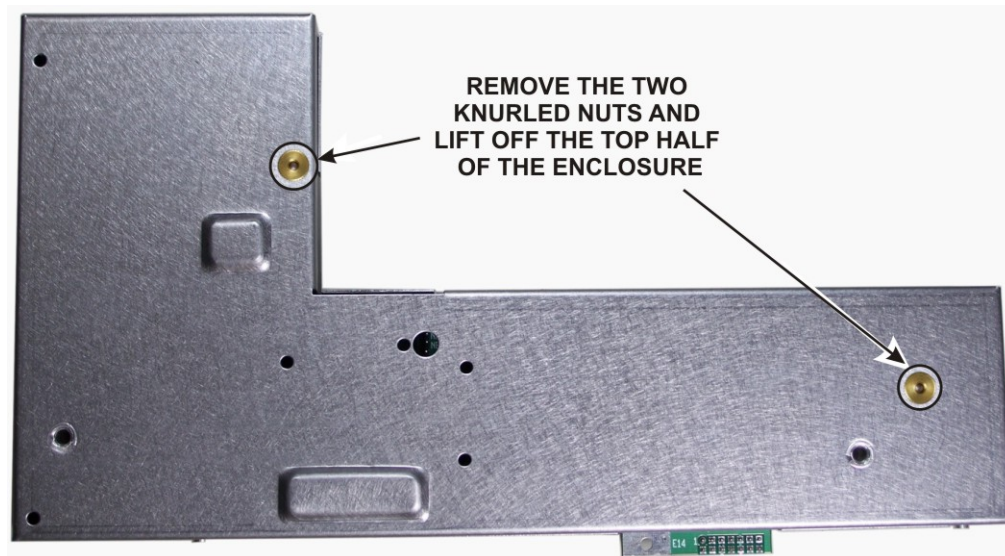
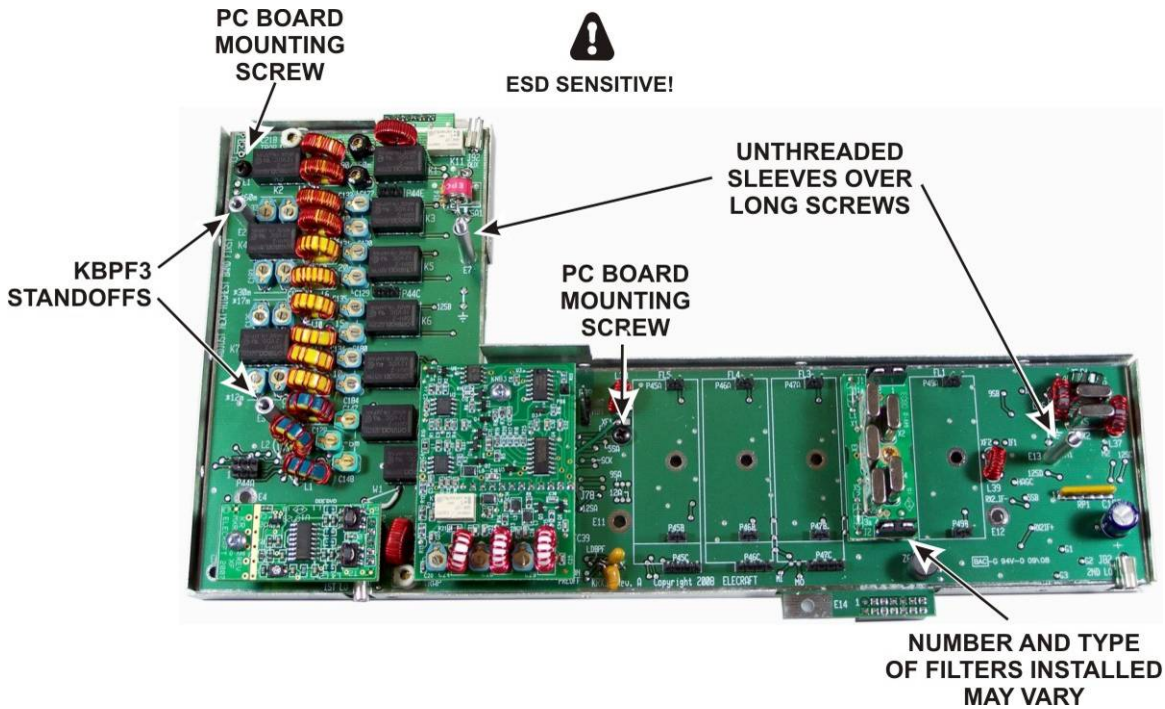
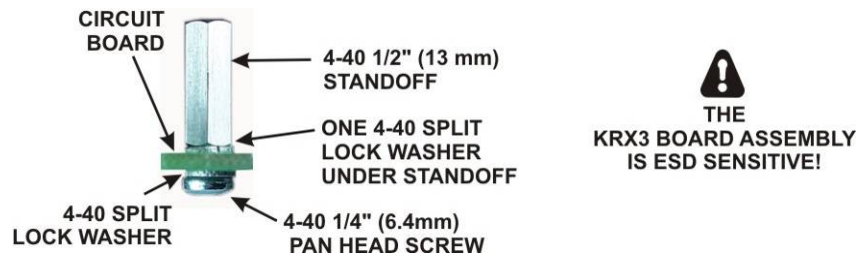

Figure 5. Removing the Top of the Sub Receiver Enclosure.
Figure 6. Sub Receiver PC Board
Figure 7. Installing the Standoffs.
- Unscrew the two knurled nuts shown in Figure 5 and lift the top half of the enclosure off. There are two unthreaded sleeves over the long screws above the circuit board that will slide off easily (see Figure 6). Be sure you don't lose them.
Check to see if the standoffs are already mounted on the sub receiver at the locations shown in Figure 6. if so, go directly to *Installing the KBPF3A on the Sub Receiver Board* on page 11 Otherwise continue with *Installing Standoffs on the Sub Receiver Board* below.
Remove the two unthreaded sleeves over the long screws shown in Figure 6, then remove the two PC board mounting screws. Each screw has a split lock washer under it.
Install the 1/2" (13 mm) standoffs at locations E1 and E3 on the sub receiver pc board (see Figure 6). Use the hardware exactly as shown in Figure 7. The lock washer between the standoff and the pc board is very important to establish the correct height above the board.
- Install the KBPF3A, making sure the three connectors on the bottom of the board mate with P44A, P44C and P44E on the sub receiver board. The screw holes will line up with the standoffs when the board is positioned correctly (see Figure 6). Secure the KBPF3A board with two 4-40 1/4" (6.4 mm) pan head screws and #4 split lock washers as shown.
- If you removed them, place the 7/8" (22 mm) unthreaded sleeves over the long screws so they rest against the top of the circuit board (see Figure 6).